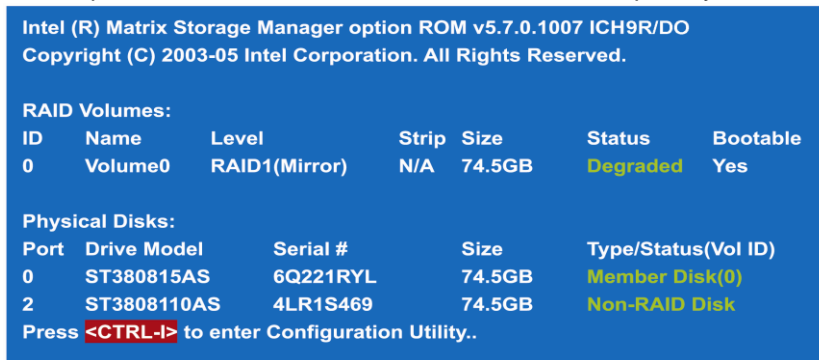

Figure 3
- (3)-1 After the POST memory testing and before the operating system booting, a message "Press <Ctrl-I> to enter Configuration Utility" (as Figure 3) shows up, accordingly, press <CTRL+ I> to enter the RAID BIOS setup utility.